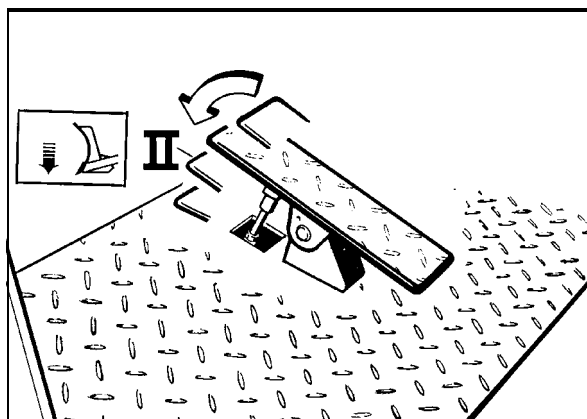

Fig. 47
- Lifting the dozer blade (BW 213 PDBH-3) (Fig. 47).